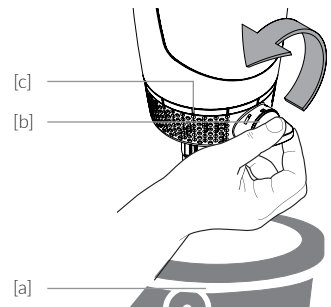

Fig. 8.2
- / turn the backwash handle [b] in the direction of the arrow by 90° (Fig. 8.2) back to the starting position
- / acc: to chapter 8 Backwashing, Fig. 8.2 turn the backwash handle [b] back 90° in the direction of the arrow